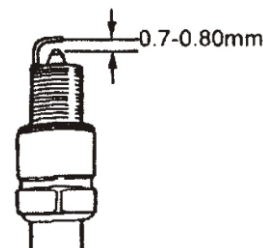

Fig. 15b
- Measure the spark plug gap using a spark plug gauge. If necessary, adjust the gap by carefully bending the side electrode. The gap should be between 0.70 mm and 0.80 mm (See Fig. 15b).